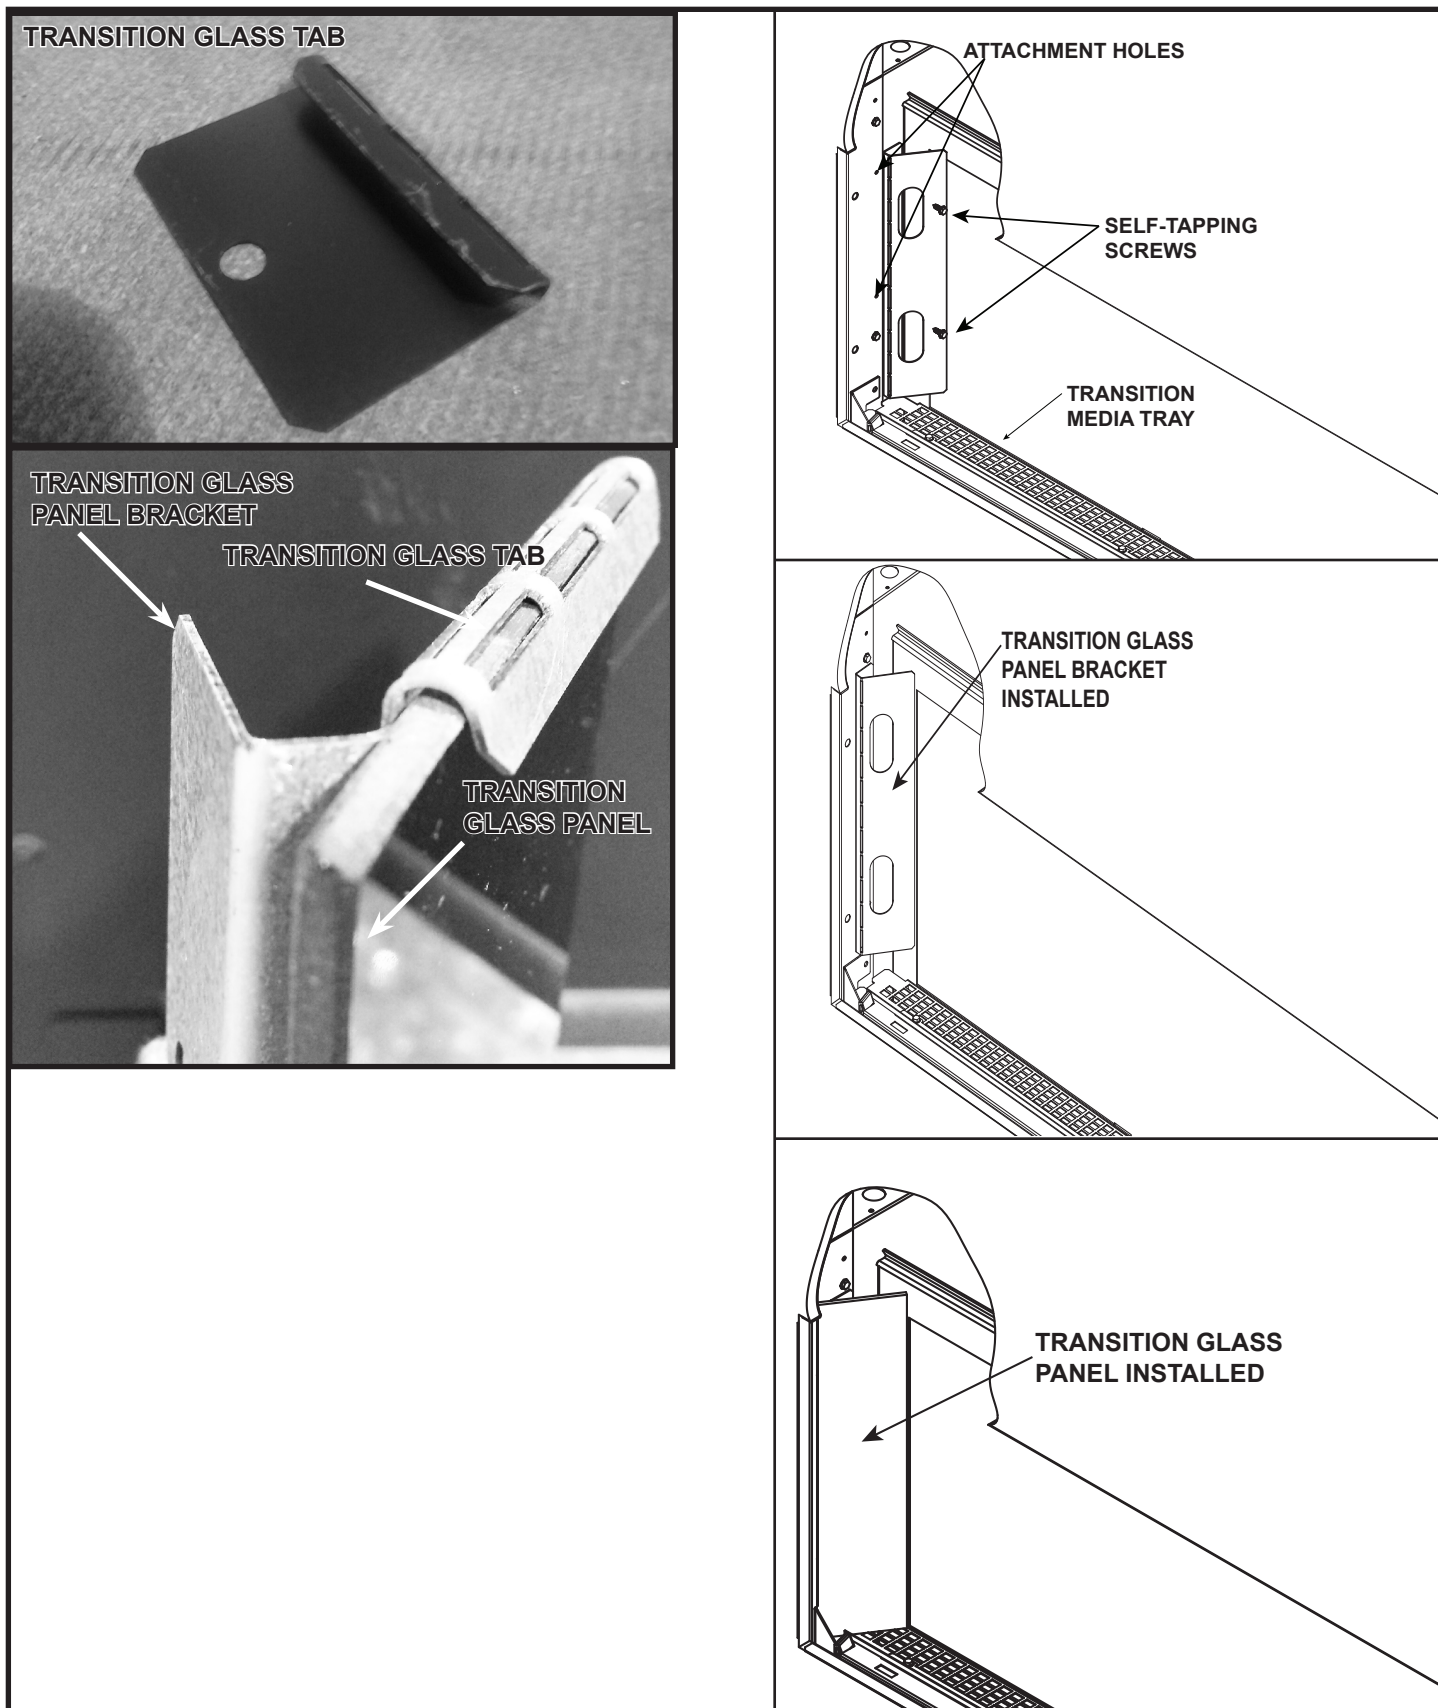

Figure 10.17 Install Transition Glass Panel
7. Set transition media tray into position as shown in Figure 10.17. The return bends are at the bottom of the tray. The rear return bend should be positioned in between the glass frame and the glass frame bracket. Ensure tray is positioned flush with appliance opening.
9. Install transition glass panels by securing with tabs on left and right sides of appliance. See Figures 10.17 and 10.18.